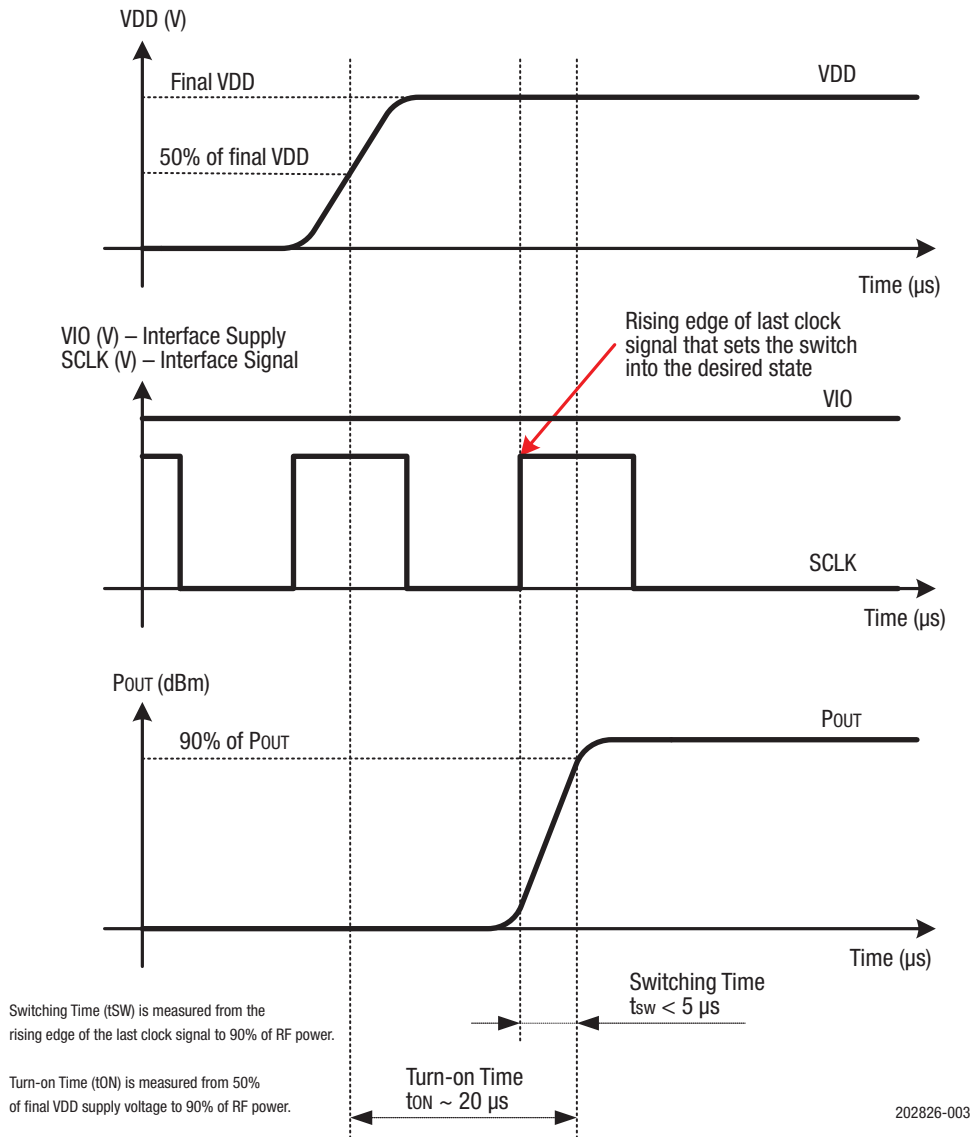

Figure 3. SKY13492-21. Timing Diagram
Figure 3 shows a timing diagram. Figure 4 illustrates the test setup used to measure intermodulation products. This industry standardized test is used to simulate the WCDMA Band 1 linearity of the antenna switch. A +20 dBm continuous wave (CW) signal, f_{FUND} , is sequentially applied to the TRX1 through TRX14 ports, while a -15 dBm CW blocker signal, f_{BLK} , is applied to the ANT port.
| Turn-on time (see Figure 3) | t _{ON} | From application of V _{DD} and V _{IO} | | | 20 | μs |
| Switching speed (see Figure 3) | t _s | Port to port | | 2 | 5 | μs |